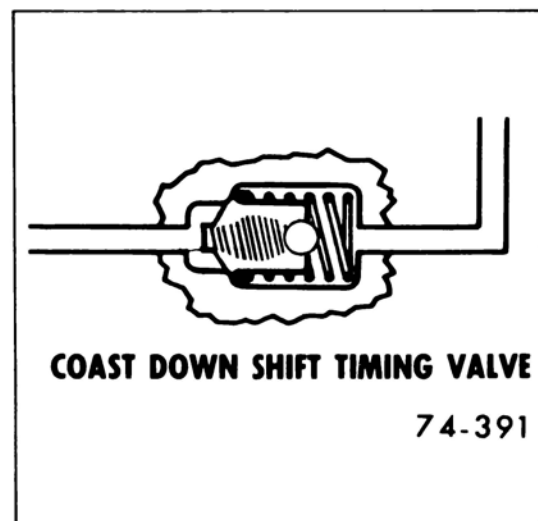

Figure 74-23—Coast Downshift Timing Valve
l. Coast Downshift Timing Valve (See Figure 74-23)